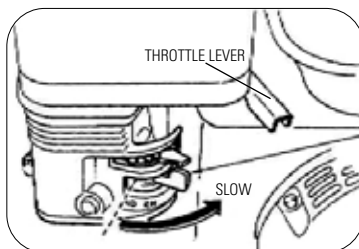

FIGURE 10.8
- Move the throttle lever to the SLOW position. Some engine applications use a remotely-mounted throttle control rather than the engine-mounted throttle lever. Figure 10.8.